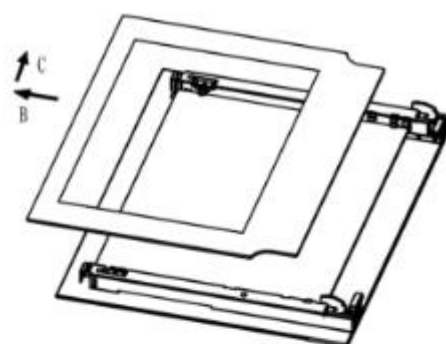

Fig.8
2. Take out inner glass slowly (Fig.8)